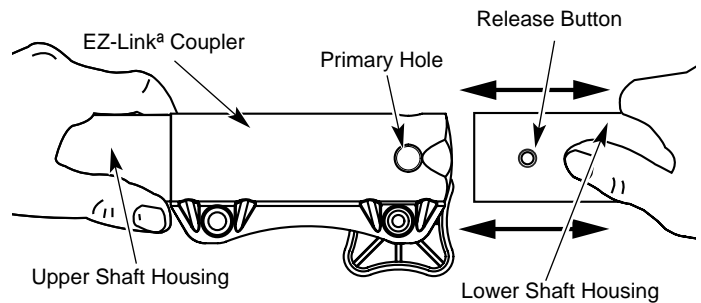

Fig. 24
3. While firmly holding the upper shaft housing, pull the cutting attachment or add-on straight out of the EZ-Link[®] coupler (Fig. 24).
2. While firmly holding the add-on, push it straight into the EZ-Link[®] coupler (Fig. 24).